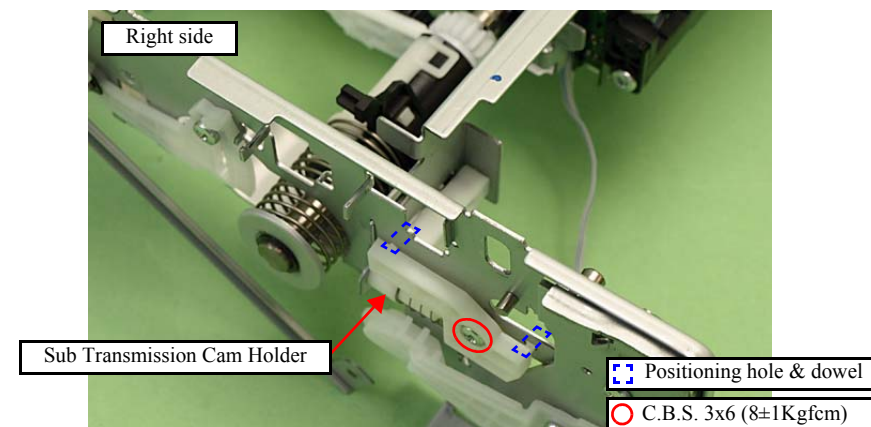

Figure 4-148. Removing the Upper Paper Guide R/PE Sensor
- Align the dowels (x2) of the Sub Transmission Cam Holder with the positioning holes (x2) of the Main Frame. (See Fig. 4-148.)